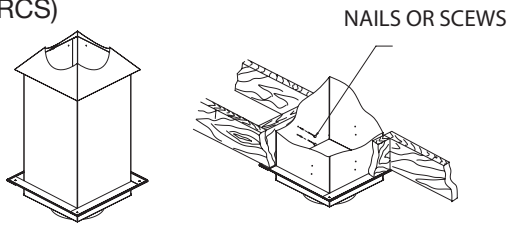

Figure 3
Step 3: From below push the square support into the framed opening making sure the square support extends a minimum of 3 1/2" below the finished ceiling. Attach the support to the framed box using (12) - 3" spiral nails or #8 x 1 1/2" wood screws (see Figure 3). Screw finish trim (included) to the ceiling.